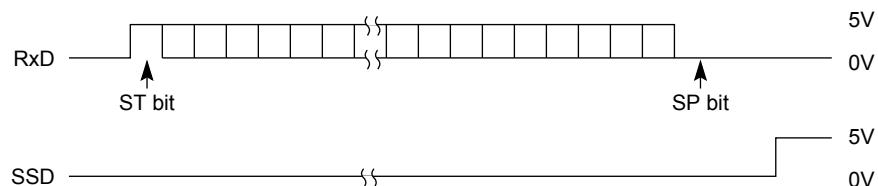

Figure B-1
- The RxD of RSDV1 as specified in Figure B-1?
② In receiving by serial interface, printing data is omitted or printing operation is not performed.
- Are RxD and SSD of RSDV1, RSDV2 as specified in Figure B-1?